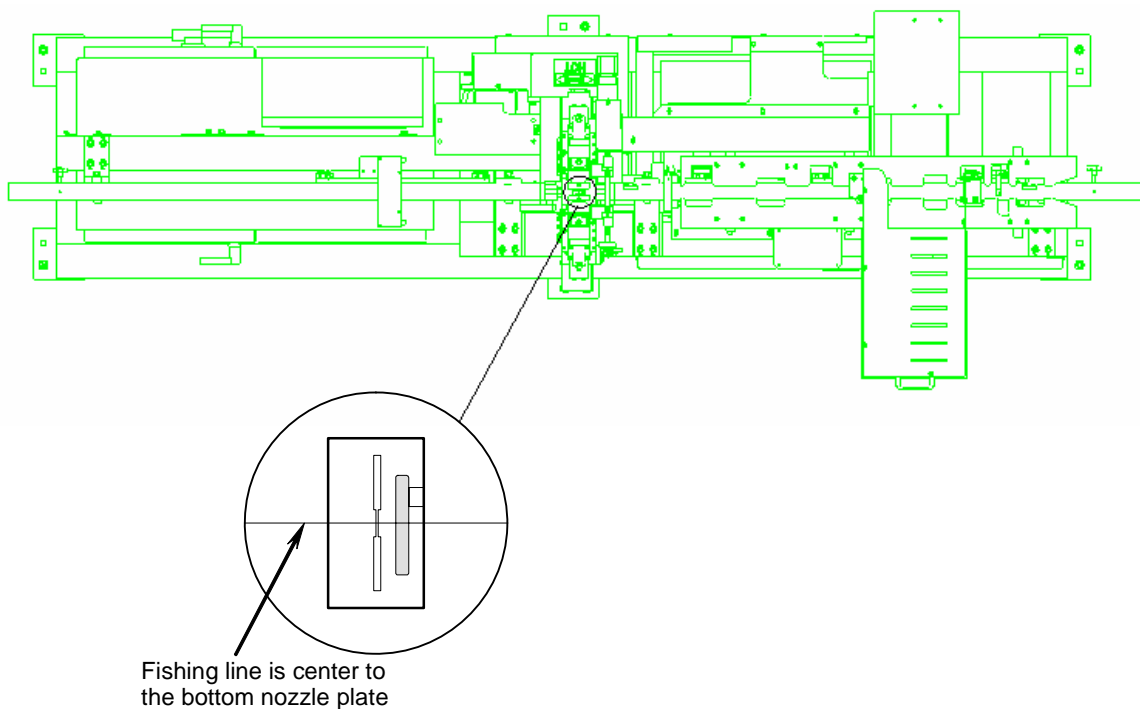

Figure 5
- a. Centered to the scribe line on the bottom nozzle plate. See Figure 5.